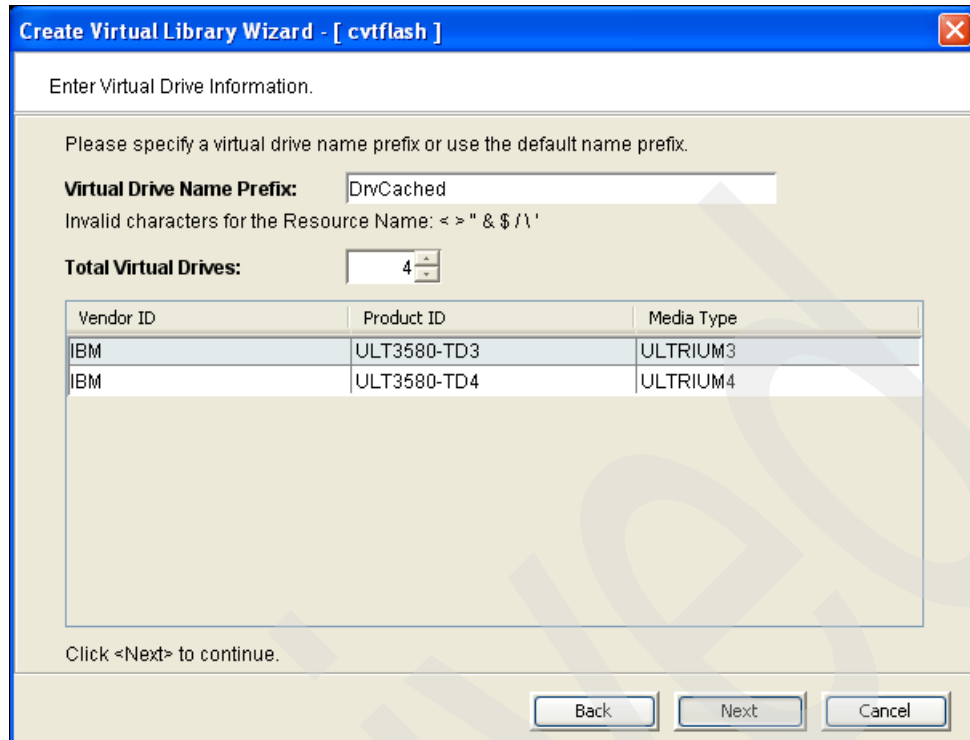

Figure 6-89 Cached virtual library creation: specify virtual drive information
4. Within the window shown in Figure 6-89 on page 236, you specify: